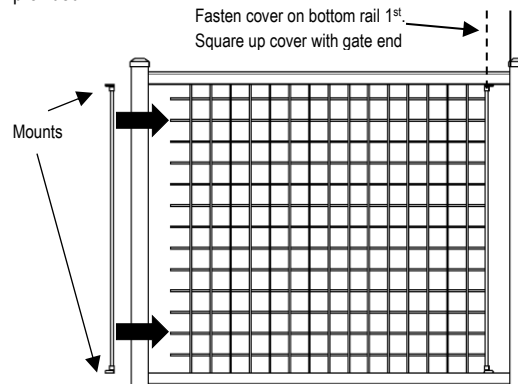

Fig 5
6. Place mounts on the end of wire mesh end covers (Fig 5). Place covers over the end of wire mesh panel and fasten bottom mount 1st with 2 screws provided. Make sure the cover is square with gate sides and fasten top mount with 2 screws provided.